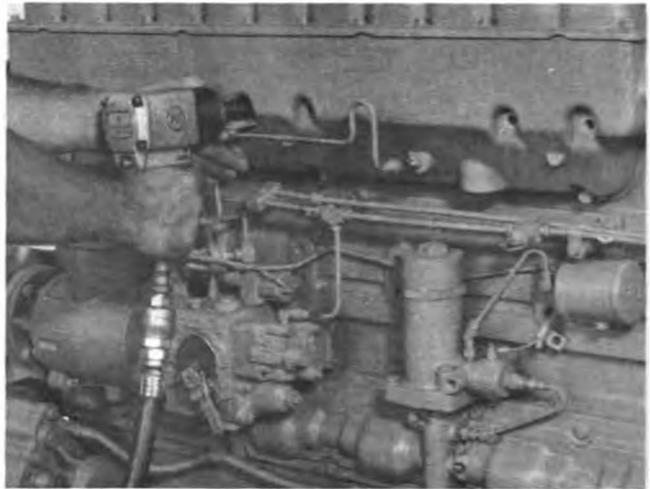

Fig. 0-23. Remove The Capscrews From The Aftercooler.
- 4. Remove the capscrews and lockwashers that hold the aftercooler to the engine, Fig. 0-23. Install two dowels, one at each end of the aftercooler, into capscrew holes to hold the aftercooler.**